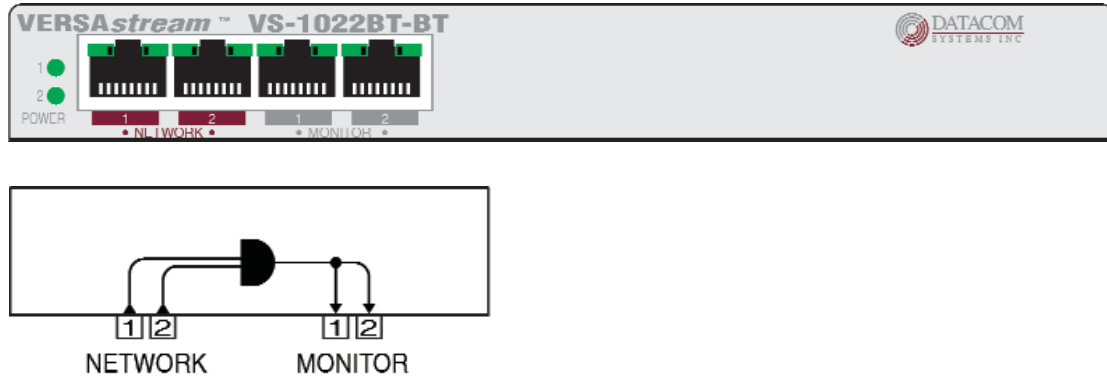
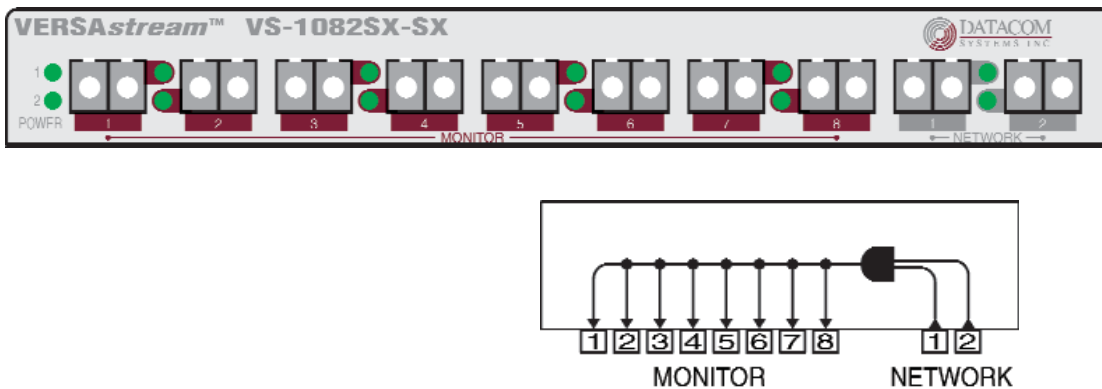

Figure 3 - VS-1022BT-BT Front Panel and functional diagram
Figure 12 - VS-1082SX-SX Front Panel and functional diagram
To connect the SS-200 into the network, refer to **FIGURE 3** and follow these steps:
**VERSAsream™ SPAN Hardware Description** — Figure 3 through Figure 12 illustrates the VERSAsream™ SPAN Series aggregator/regenerator front panel. This is the location for all cable connections and status LEDs.